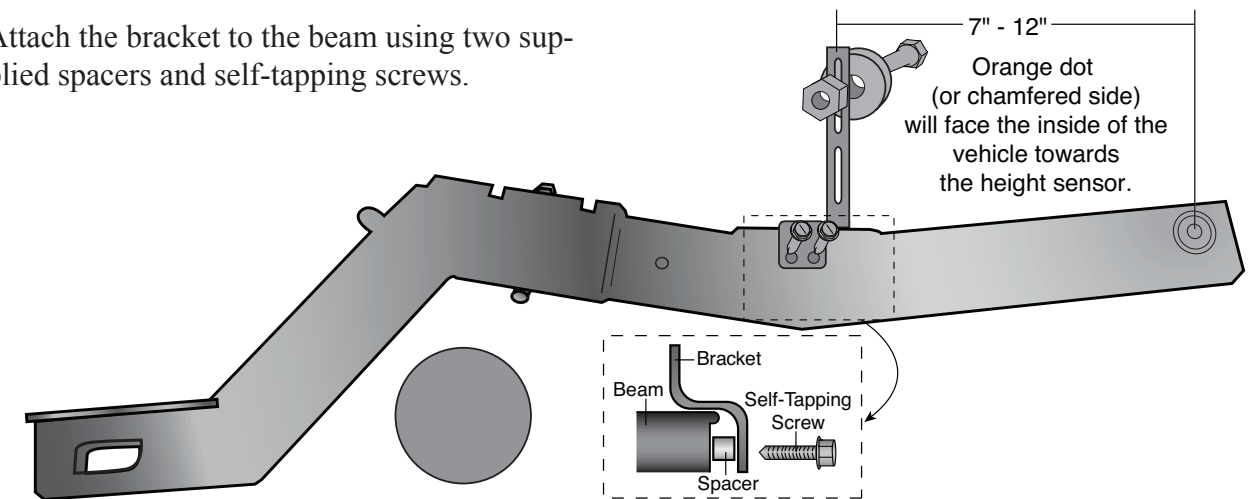

Figure 3
1. Place the magnet mounting bracket onto the beam with the base of the bracket facing towards the inside or outside of the vehicle (Figure 3).
4. Loosely attach the magnet to the bracket using the supplied bolt and nyloc nut (Figure 3).